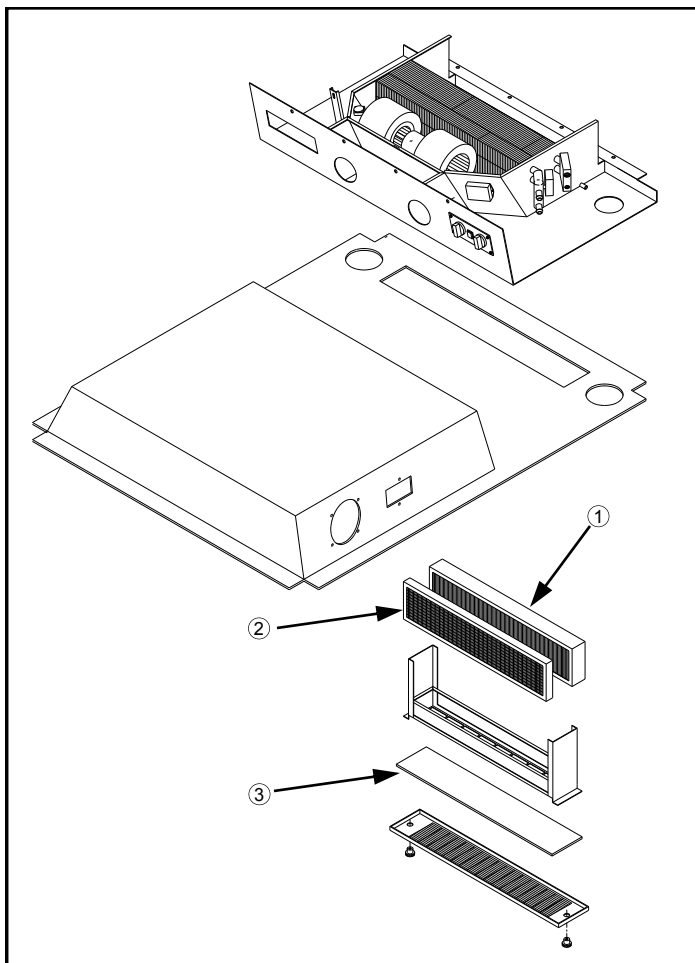

FIG 7.23
PAPER FILTER - (fig. 7.23, item 1) The paper filter should be cleaned once a year, or more often if necessary. Remove the paper element and gently tap it against a flat surface. Direct low
CHARCOAL FILTER - (fig. 7.23, item 2) Remove and replace at the first sign of chemical odor entering the cab.
RECIRCULATING FILTER - (fig. 7.23, item 3) The recirculating filter may be cleaned with soap and water. Replace, if it becomes worn.